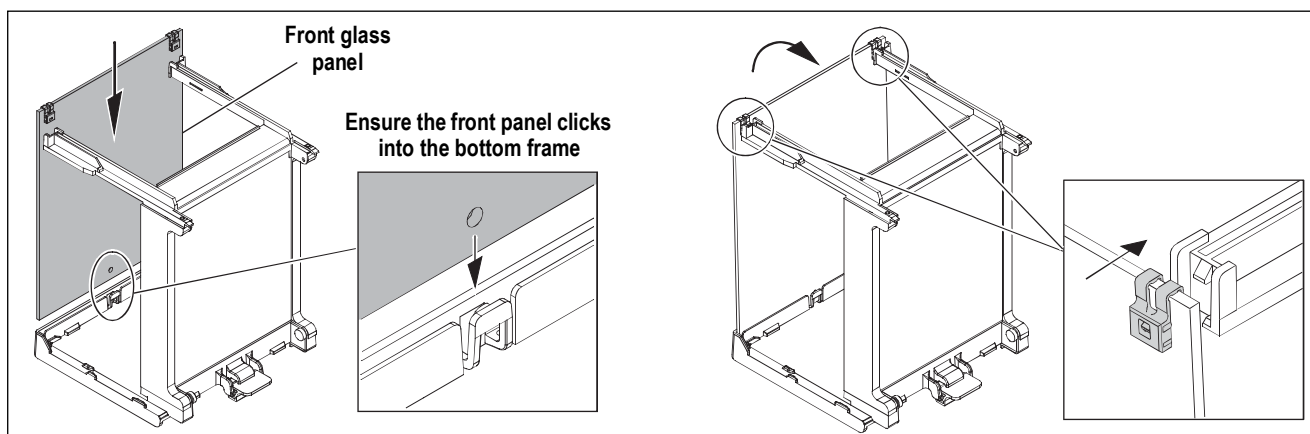

Figure 2-10. Install Top Assembly
6. Insert the front glass panel into the base, ensuring it clicks as shown in Figure 2-10.